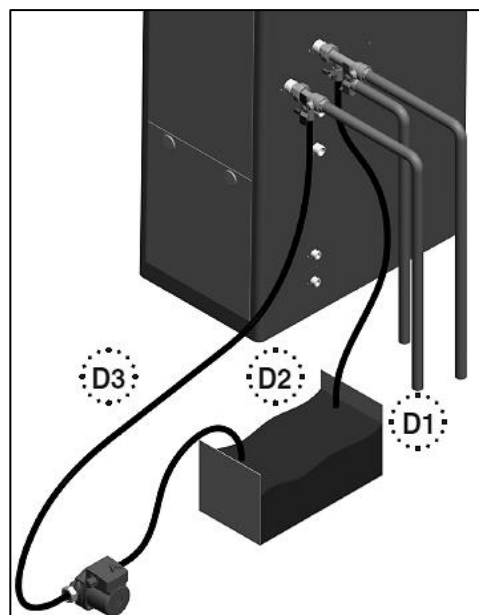

Figure 54 – Hose Connection Detail
3. Connect one hose (D1, Figure 54) to the valve (V3) and place the free end in a bucket. Connect one of the hoses (D3) to the circulation pump outlet and the cold water inlet line to valve V4. Connect the other hose (D2) to the circulation pump inlet and place the free end in the bucket.